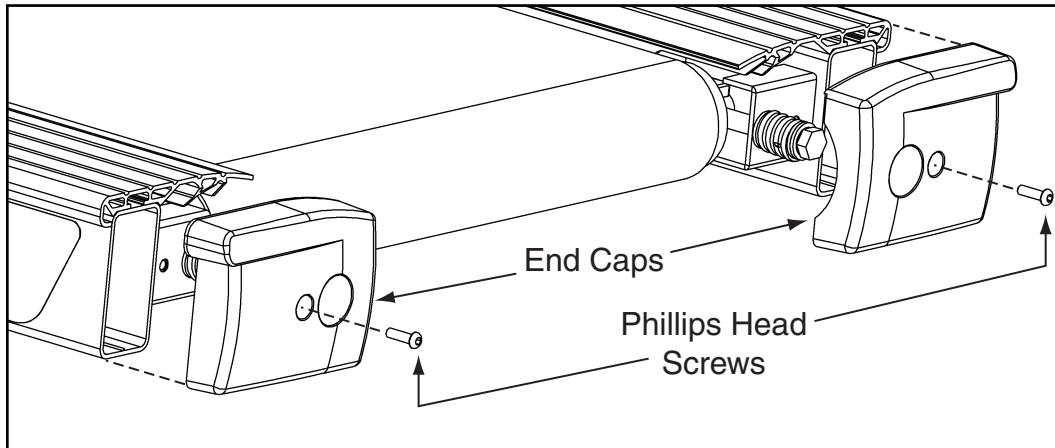

Figure 2
- A.** Remove the Phillips head screws that fasten each of the plastic end caps in place and set aside. See Figure 2.